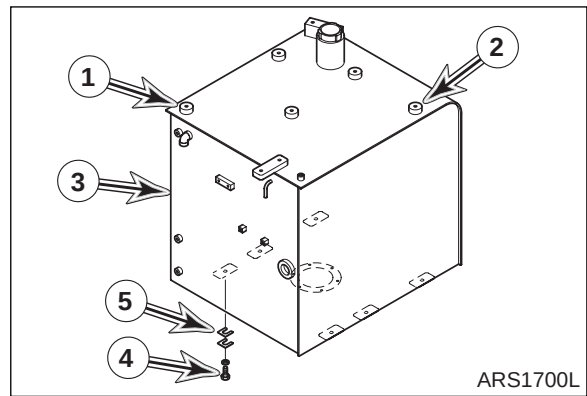

Figure 12
17. Install two 12 mm eye bolts in threaded holes (1 and 2, Figure 12). Using a suitable lifting device, sling eye bolts.
18. Remove six bolts and washers (4, Figure 12) holding tank (3) to frame. Lift tank 25 mm (1") and make sure it is balanced. Make sure that there are no other electrical wires or hoses connected to tank. Completely remove tank after inspection.
19. Remove shims (5, Figure 12).